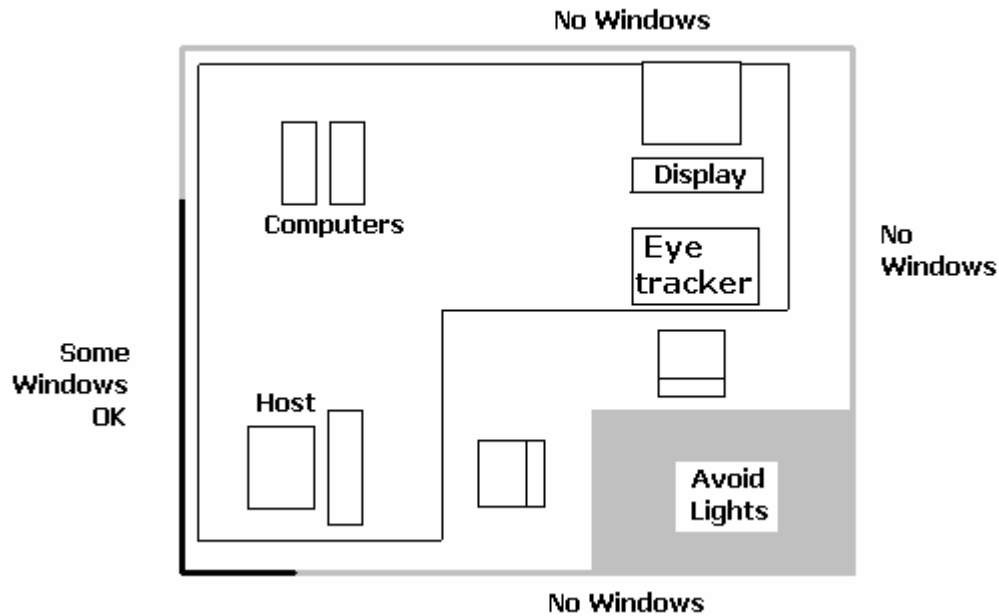

Figure 1-1 Suggested EyeLink 1000 System Layout
- Set up the host and display monitors and PCs on tables arranged in an 'L' shape, as in Figure 1-1. This configuration allows the experimenter to adjust the eye tracker device and set up the subject for the experiment while having access to both computer keyboards and monitors.
- Avoid windows or other bright light sources that could cause reflections on the host and display monitors. The grey walls highlighted in Figure 1-1 are locations where bright light sources will cause reflections.